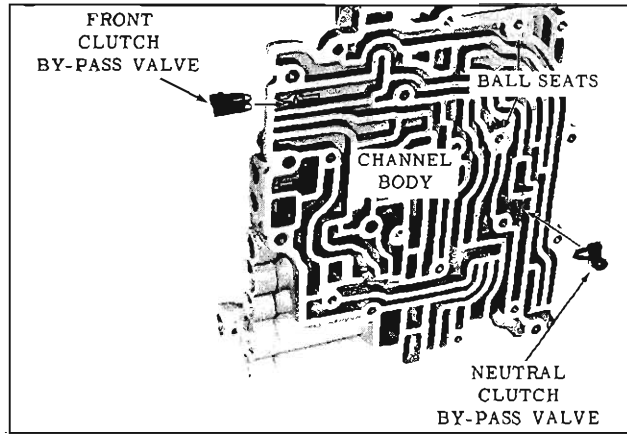

Fig. 6-86 Channel Body
2. Remove neutral clutch by-pass valve and the front clutch by-pass valve from channel body. (Fig. 6-86)
NOTE: Assemble loose parts into channel body after inspection. (Fig. 6-86)